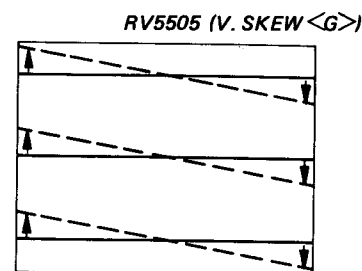

Fig. 3-21
- 8) When the green horizontal center line is slanting as shown in Fig. 3-21.